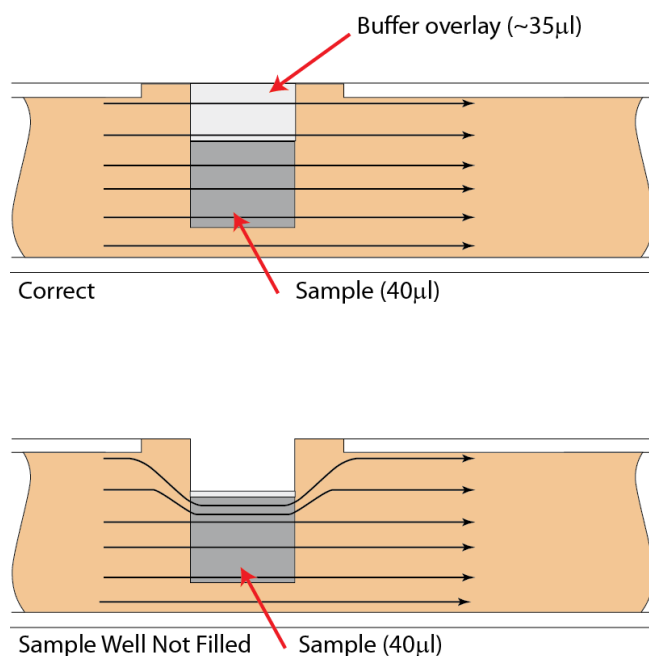

Figure 10.1. An illustration of the electrophoretic effect on a sample when a sample well is not completely filled.
Proper sample loading is critical for best performance of SageELF cassettes. For maximum reproducibility and accuracy, the sample should travel through the central section of the gel column, and should be bounded on all four sides by uniformly conductive media – either gel or electrophoresis buffer. The goal of the loading procedure is to produce this geometry in the sample loading well, as illustrated in the bottom section of **Figure 10.1**. Properly prepared samples will be 40 μ l in total volume. Loading solution used during sample prep contains concentrated Ficoll as a densifying agent (see following chapter on Sample Preparation for details), and therefore the samples will sink and form a high density layer beneath the electrophoresis buffer when pipetted slowly into the sample wells. If there is insufficient conductive buffer over the sample, the electrophoretic forces lines will curve upward as the sample exits the well (see **Figure 10.1**, upper section), and the sample will be drawn to the top of the cassette where it can travel out of the gel into the gap between the gel column and the plastic top of the channel. Sample moving in this gap will travel at a different rate than the sample inside the gel column, and will lead to elution of undesired size fractions in the eluted material. In such cases, the contaminating sample will usually (but not always) be higher in molecular weight than the anticipated fractions.
2. **Remove 40 μ l of buffer from the sample well, and load 40 μ l of sample into that well.** Take care not pierce the agarose with the pipette tip. There is gel on all sides and bottom of the sample well. In addition, there is an agarose “chimney” surrounding the top of the sample well that protrudes up through the cassette cover (see **Figure 10.1** on the previous page). When removing buffer, some users find it useful to immerse the pipette tip just below the surface of the buffer and follow the liquid level down with the tip as the buffer is removed. When buffer removal is completed, there will be ~35 μ l of buffer left in the well. When adding sample, place tip of pipette just below the surface of the buffer, and follow the liquid level up with the tip as the well fills. Don’t be concerned if the sample well slightly overfills. The density of the sample will allow it to sink before it can flow out of the well.